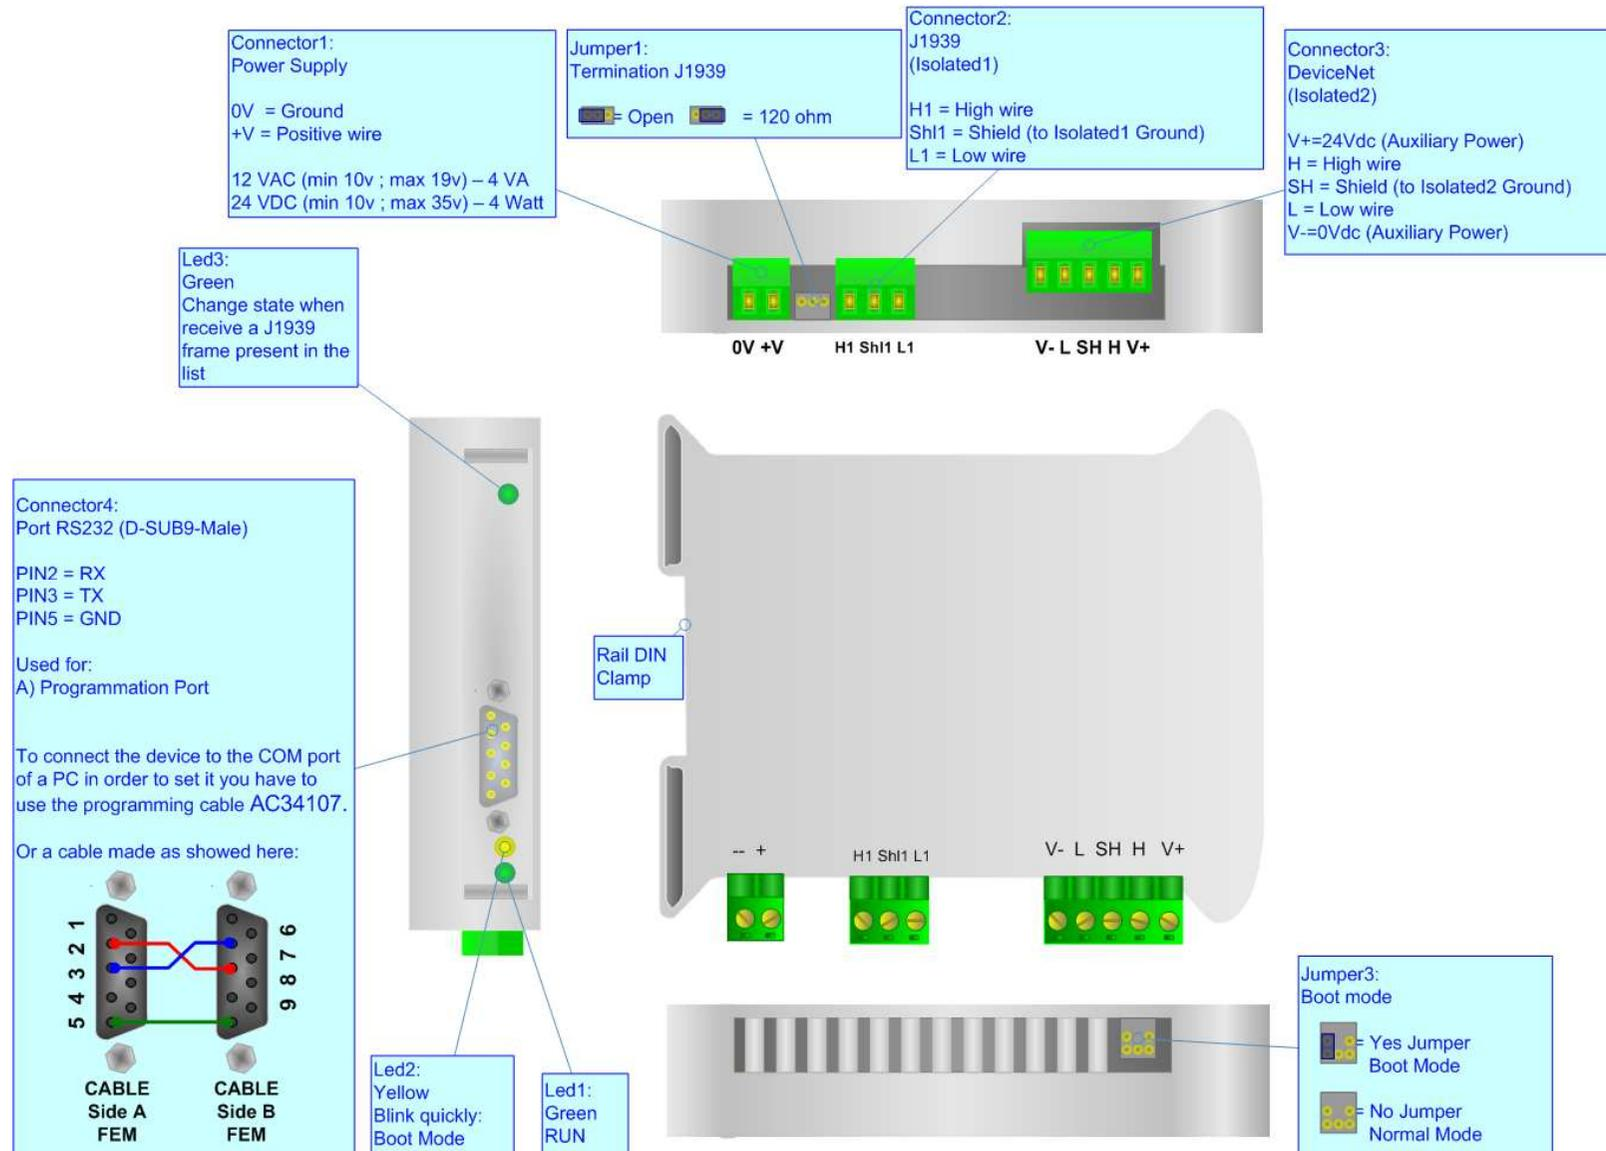

Figure 1: Connection scheme for HD67137
- Insert the Boot Jumper (For more info see Fig. 1);
- Check the Boot Led. It must blink quickly (For more info see Fig. 1)